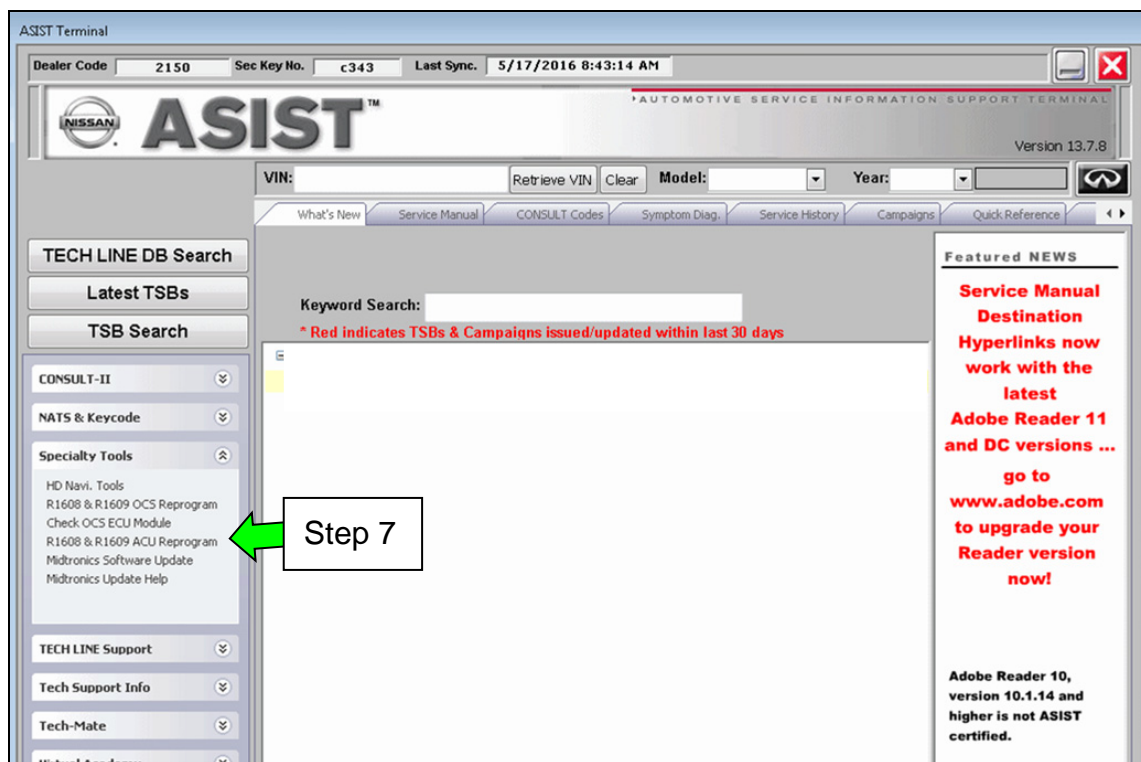

Figure 15
This bulletin has been amended to correct Step 7 and Figure 15 on Page 9 and to correct Step 6 and Figure 25 on Page 14. Discard all previous copies of this bulletin.
7. Start the CONSULT PC, open ASIST and then select “**R1608 & R1609 ACU Reprogram**” on ASIST under Specialty Tools (Figure 15).